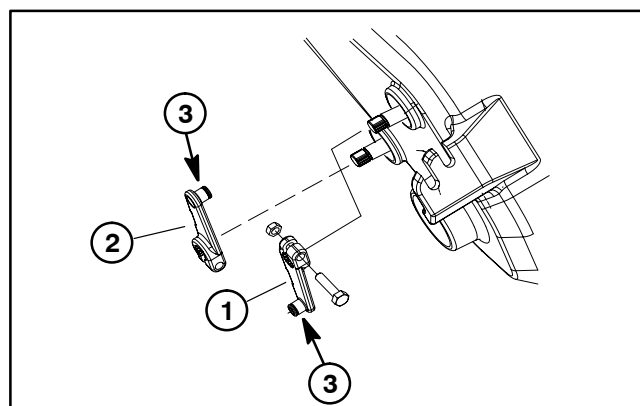

Figure 49
13. Place traction drive lever onto gearbox shaft noting location of alignment splines on shaft and lever. Mount traction lever with cable boss outward (Fig. 49). Secure lever with cap screw and locknut. Parking brake lever installation should be done with cable attached to lever as gearbox is being installed on machine.